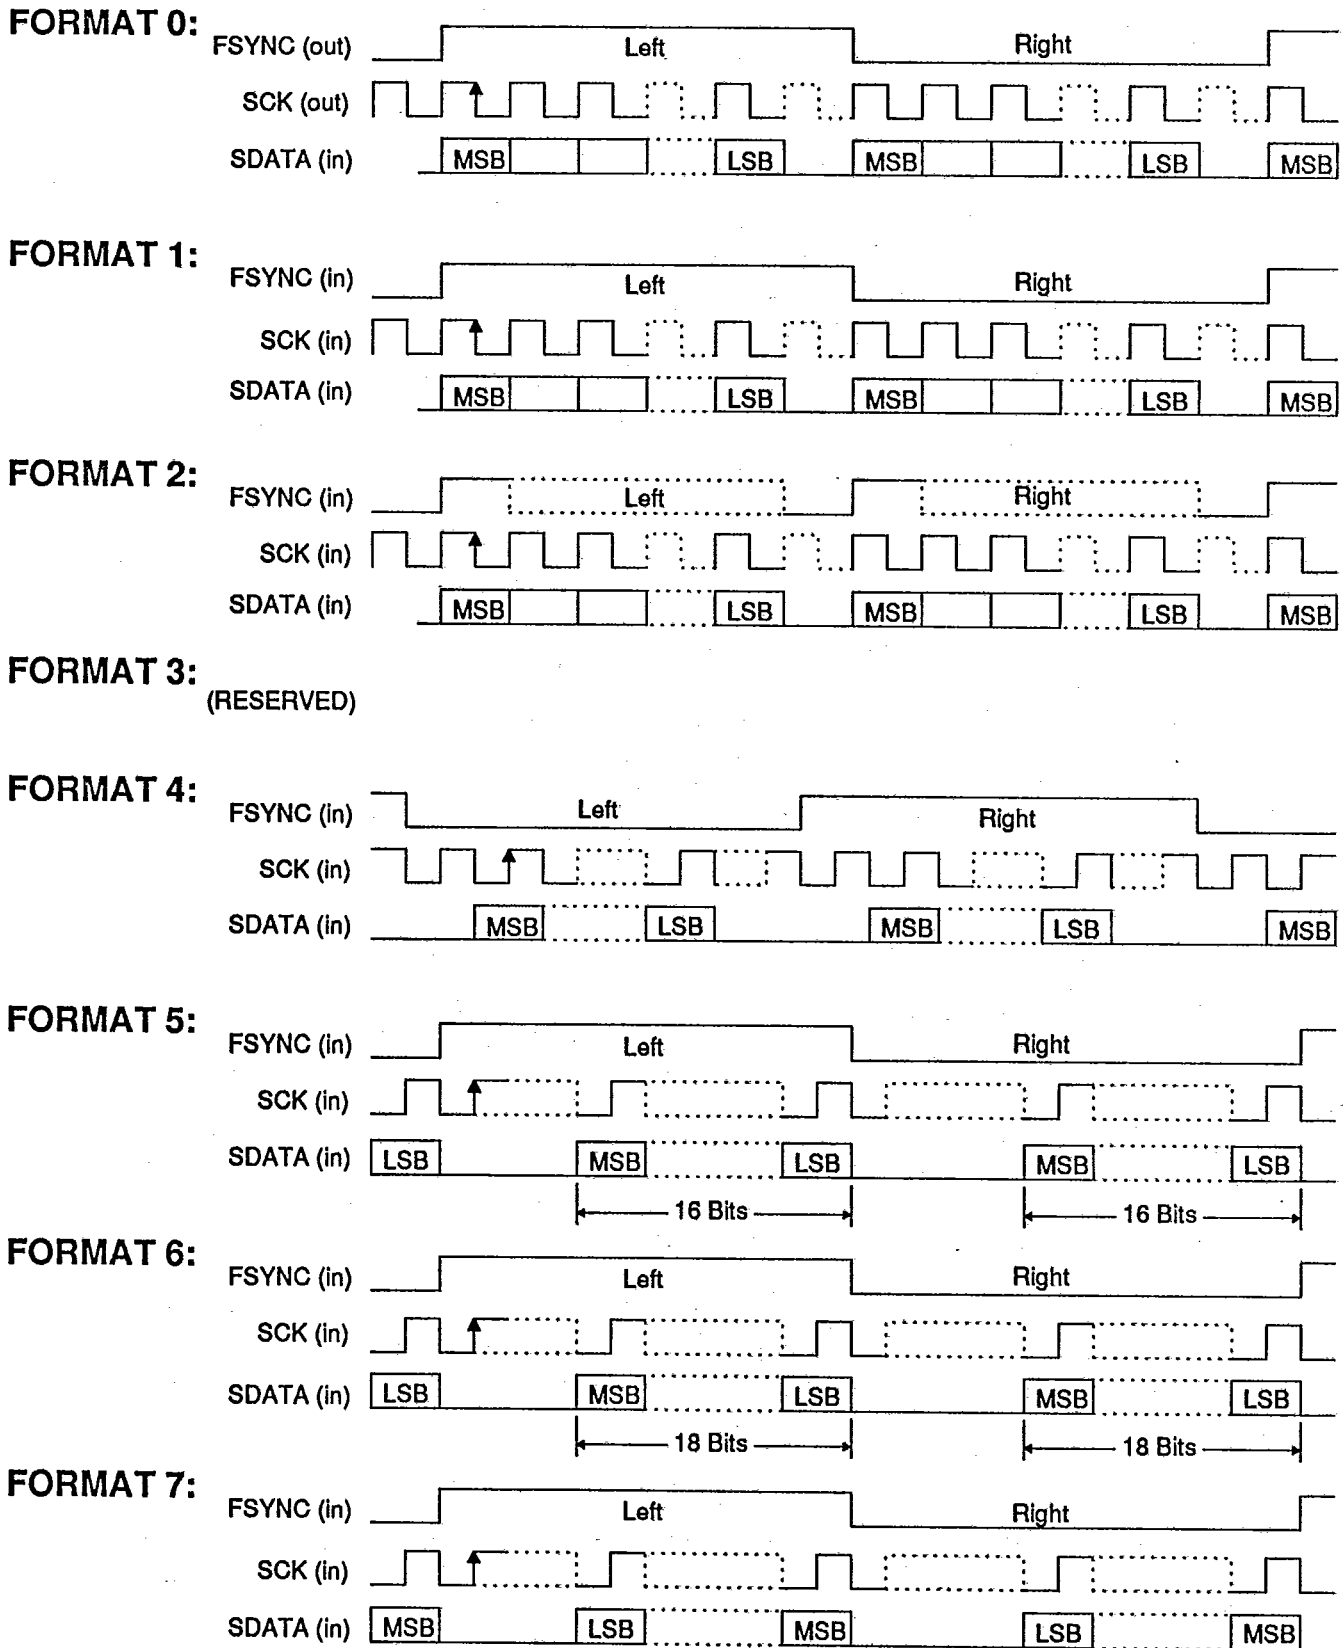

Figure 16. CS8402 Audio Serial Port Formats
The audio serial port is used to enter audio data and consist of three pins: SCK, SDATA, and FSYNC. SCK clocks in SDATA, which is double buffered, while FSYNC delineates the audio samples and may indicate the particular channel, left or right. To support many different interfaces, M2, M1, and M0 select one of seven different formats for the serial port. The coding is shown in table 3 while the formats are shown in figure 16. Format 0 and 1 are designed to interface with Crystal ADCs. Format 2 communicates with Motorola and TI DSPs. Format 3 is reserved. Format 4 is compatible with the I2S standard.
bit period after the active edge of FSYNC for all formats except format 4, which is sampled during the second bit period (coincident with the MSB). In figure 16, the arrows on SCK indicate when the C, U, and V bits are sampled. The C, U, and V bits are transmitted with the audio sample entered before the FSYNC edge that sampled it. The channel status serial input pin (C) is not available in consumer mode when the CD subcode port is enabled (FC1 = FC0 = high). Any channel status data entered through the channel status serial input (C) is logically OR'ed with the data entered through the dedicated pins or internally generated.